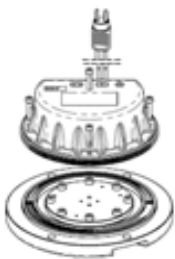

Figure 5-7
- Place the top of the lighting fixtures downwards, dismount 4 M5×25 socket head cap screws and separate the upper cover and inner cover of the lighting fixtures (Figure 5-7).